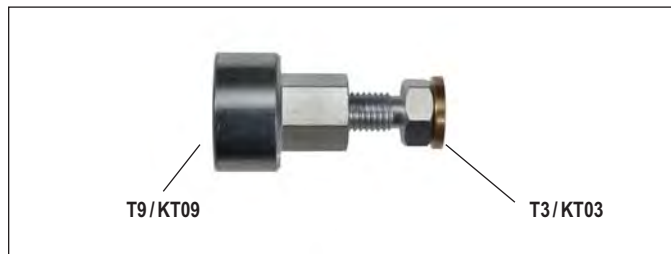
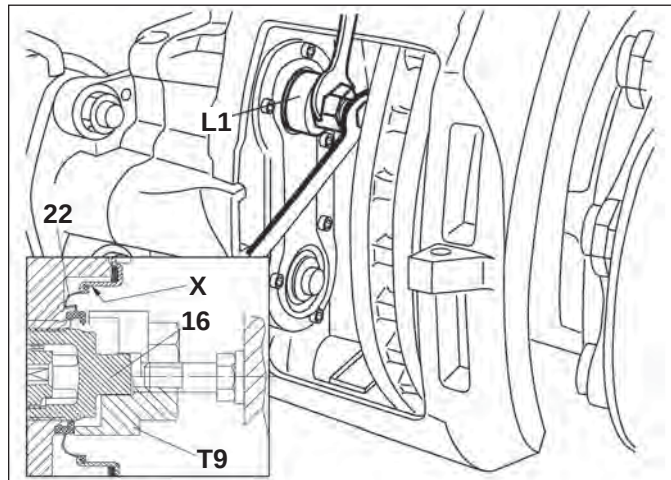

FIGURE 52 - ON-VEHICLE INNER SEAL TOOL (L1)
FIGURE 53 - ON-VEHICLE INNER SEAL INSTALLATION
5.5.12 Position the replacement inner seal (22) over the threaded tube (16). See Figures 52 and 53 for the tools and installation arrangement used. Position the L1 (T3 + T9) with the short spacer (T3) in position as shown in Figure 53. Guide the tool over the end of the threaded tube (16). Install the new inner seal (22) into position by rotating the adjuster nut on the T3 portion of the tool, using an open-ended wrench.